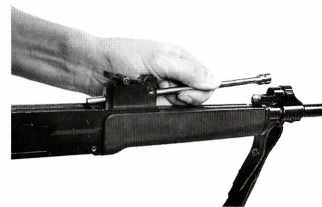

Fig. 30 Removing the piston
e) **Removing the piston (Fig. 30):** Hold the rifle from below with the left hand on the lower hand guard. Grasp the piston with the right hand and push it backwards to a stop against the action of the piston spring. Then tilt the piston upwards from the gas cylinder. In this way, the piston head comes above the upper wall of the gas cylinder; by pulling the piston